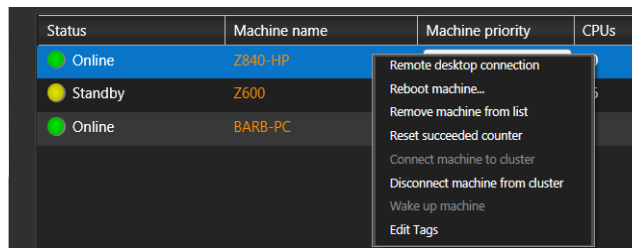

Figure 7. Opening the Edit Tags dialog.
3. Right click the target encoding machine, and choose Edit Tags (Figure 7).